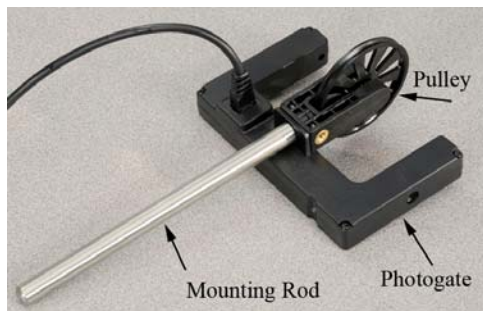

Figure 2: Pulley and Photogate
2. Attach the pulley to the photogate using the mounting rod as shown in Figure 2.